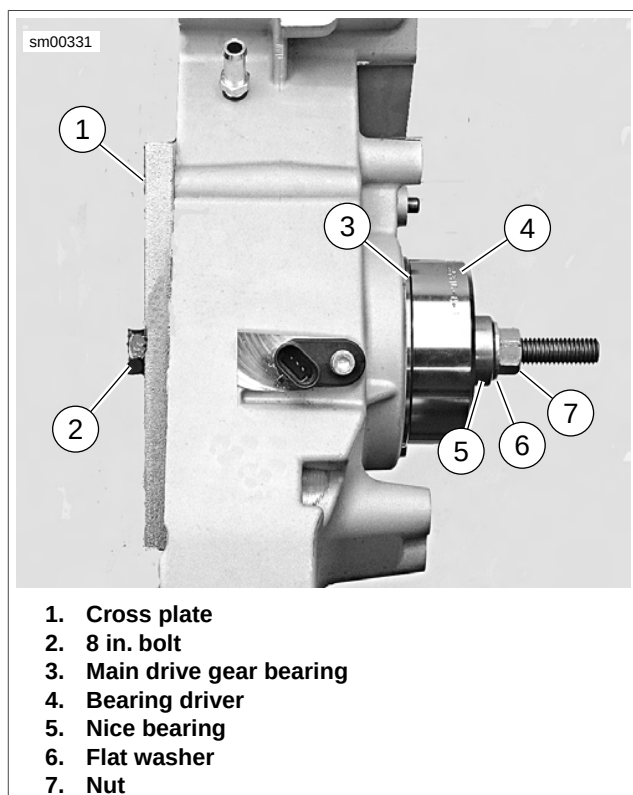

Figure 6-74. Installing Main Drive Gear Bearing
2. See Figure 6-74. Insert 8 IN. BOLT (Part No. HD-35316-4A) (2) through cross plate (1) and main drive gear bearing bore.
3. At outside of case, place main drive gear ball bearing (3), BEARING DRIVER (Part No. HD-35316-8) (4), nice bearing (5), flat washer (6) and nut (7) over end of bolt.